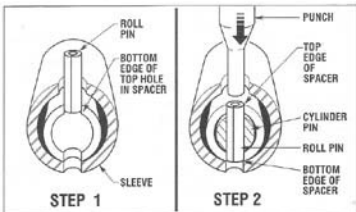

Figure 5-10: Insert roll pin and install pin using punch and hammer.
5. Use pliers to hold the **new** roll pin (never reuse a roll pin). Tap the roll pin into the **large** hole in the sleeve with the hammer and punch. See Figure 5-10. The bottom of the pin should be flush with the bottom surface of the **top** hole in the spacer. See Step 1 in Figure 5-10. Assemble the other two sleeve/spacer/roll pin assemblies.
10. Use a hammer and punch to tap the roll pin down so that it seats inside the spacer and cylinder pin. The sleeve should spin freely. See Step 2 in Figure 5-10.
11. Check to see that the roll pin does not protrude beyond the outside edges of the spacer. See Figure 5-10.